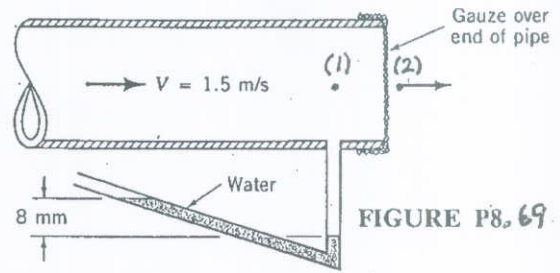

FIGURE P8.69
8.69 Air flows through the fine mesh gauze shown in Fig. P8.69 with an average velocity of 1.50 m/s in the pipe. Determine the loss coefficient for the gauze.